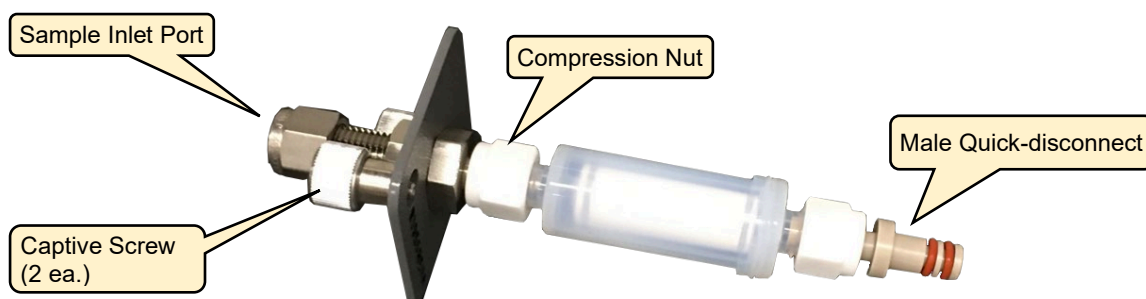

Figure 49: Sample Filter Assembly – Removed from Housing
3. Remove the old filter from the bulkhead assembly by loosening the compression nut (Figure 49). Remove the ferrules and discard.